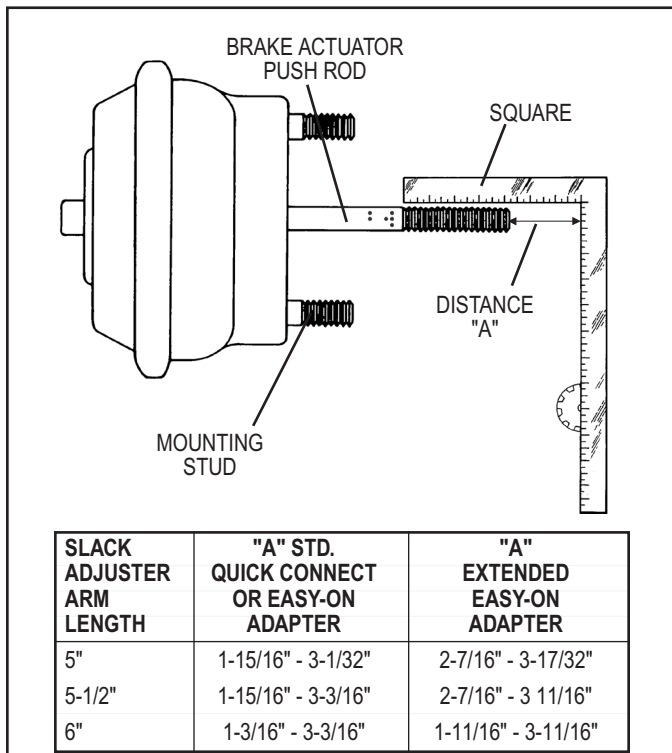

FIGURE 5 - MEASURING THE BRAKE ACTUATOR PUSH ROD
- A. With the brake chamber in the released position, place a square (or equivalent object) so that one edge is parallel to the actuator push rod while the other edge bisects the brake camshaft. Measure the distance from the push rod end to the vertical edge of the square and compare it to the values in Figure 5.
- B. If the measurement is less than the minimum shown in Figure 5, the brake actuator push rod must be shortened. If the measurement is greater than the maximum values, the brake actuator push rod may require replacement. The extended adapter, available as a separate service part (5/8"-18 pc. no. 297700 and 1/2"-20 pc. no. 297701) may avoid the need to replace the brake actuator push rod. The extended adapter is available for the easy-on yoke assembly only. Note: Installing any other type of push rod extender is not recommended, because these devices may loosen over time and result in an improperly adjusted brake.